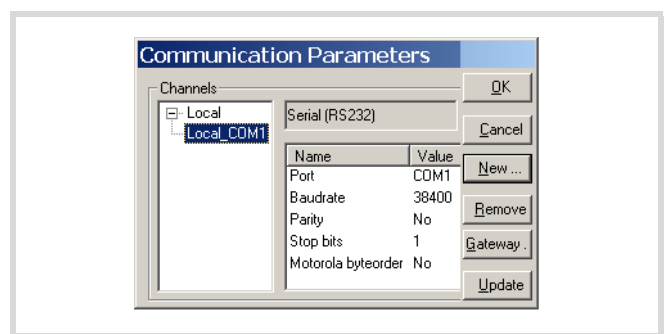

Figure 43: Defining the PC's communication settings
- ▶ Use the remaining settings as shown in Figure 43.